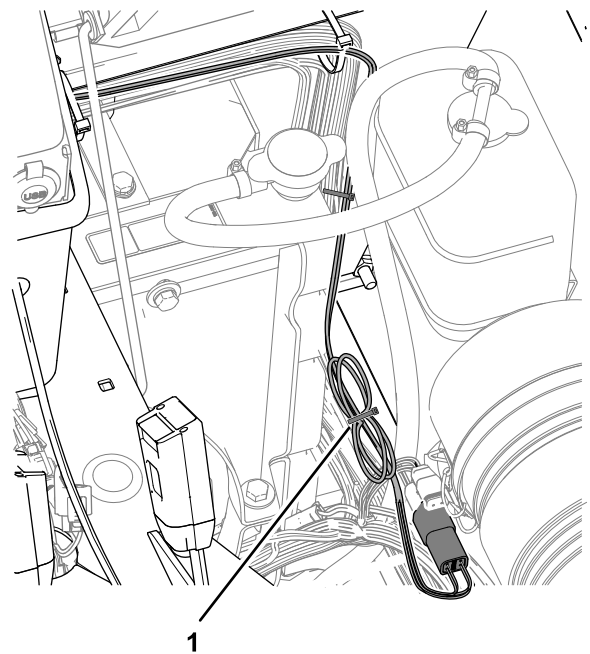

Figure 30
4. Bundle the ISO-CAN bus harness as shown in Figure 30.